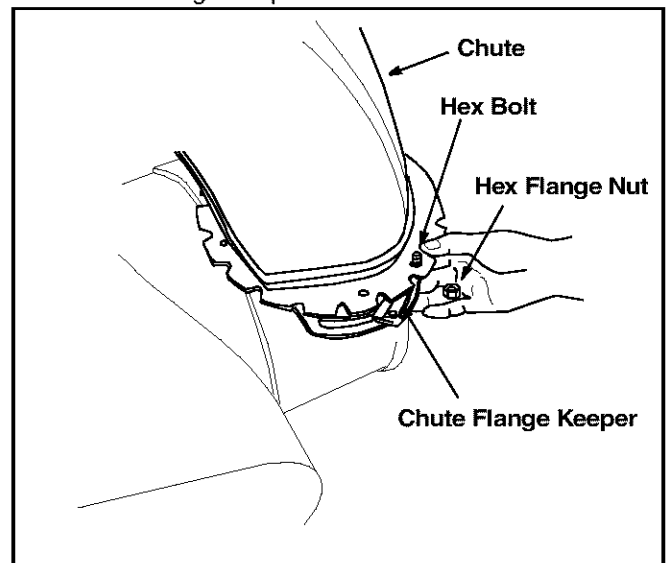

Figure 5
- Place the chute flange keeper (flat side down) beneath lip of chute assembly as shown in Figure 5. You will find the chute flange keepers in group C of the hardware pack.
- Insert 1/4-20 x .75" hex bolt and flange nut (group C of the hardware pack) up through chute flange keeper and chute assembly as shown in Figure 5. Do not tighten at this time. Rotate chute to install all the flange keepers.